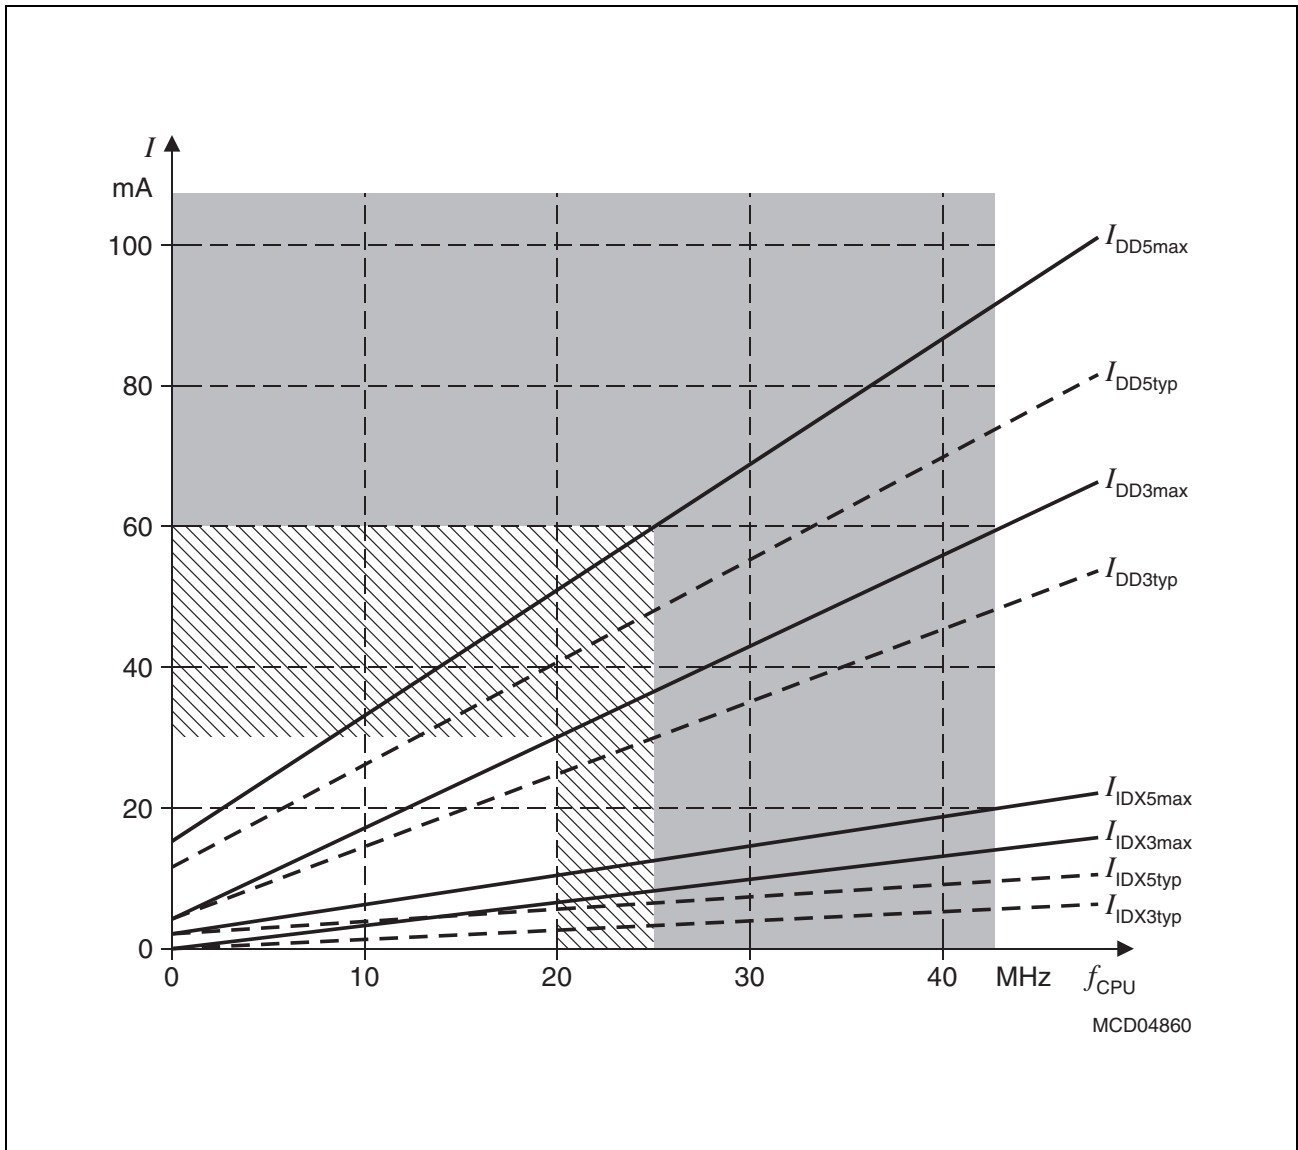

Figure 7 Supply/Idle Current as a Function of Operating Frequency
- ¹⁾ The supply current is a function of the operating frequency. This dependency is illustrated in Figure 7. These parameters are tested at V_{DDmax} and maximum CPU clock with all outputs disconnected and all inputs at V_{IL} or V_{IH} .